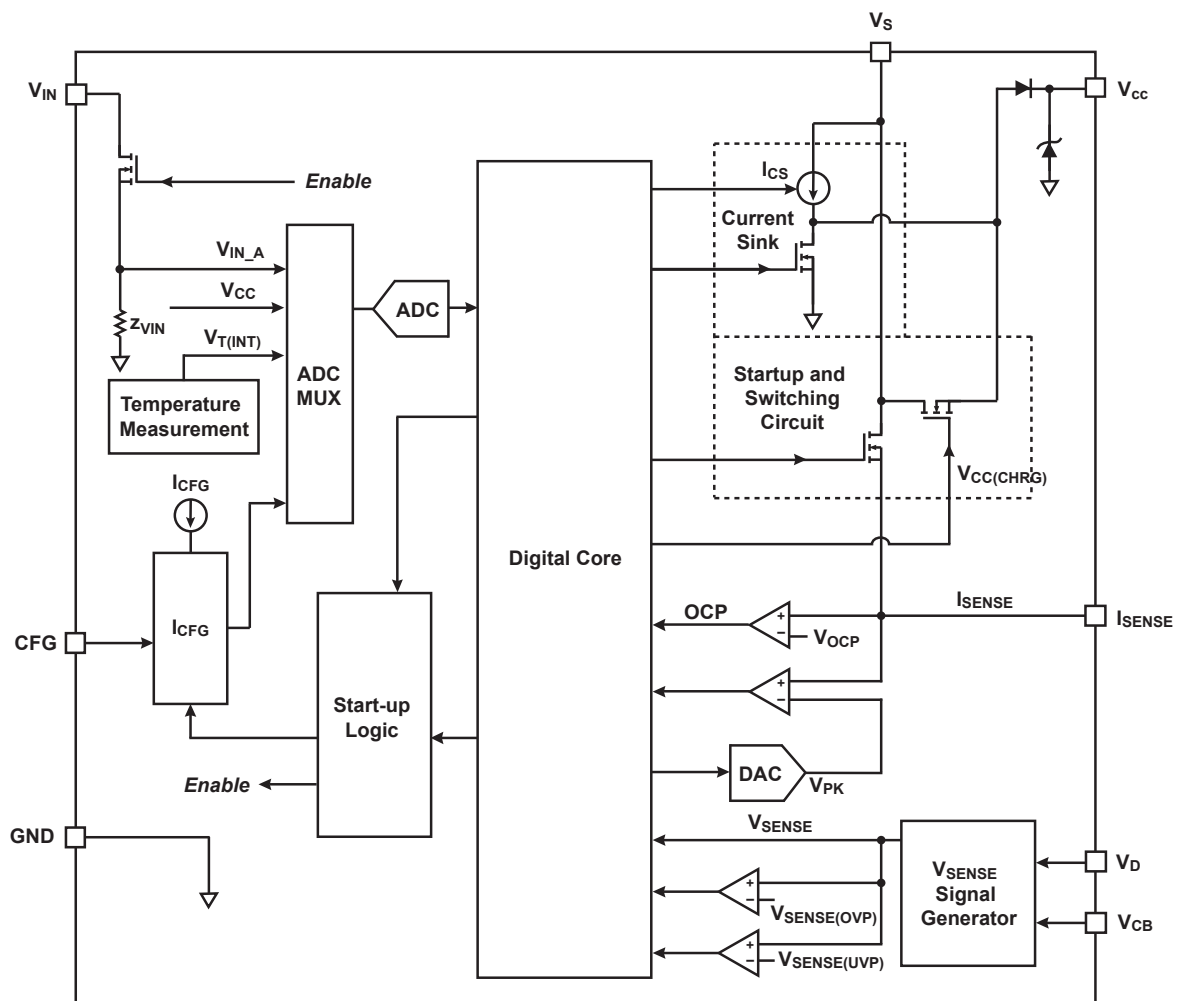
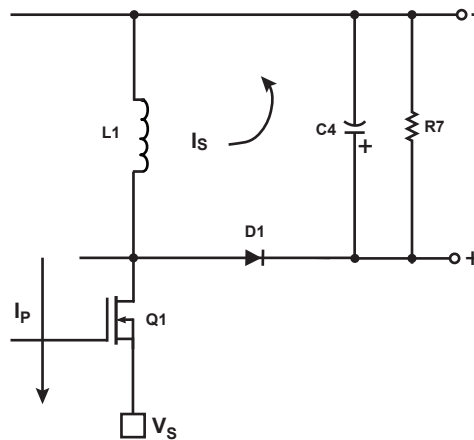
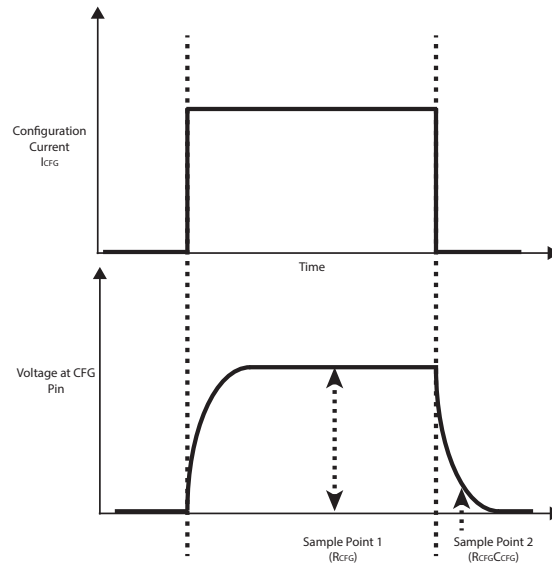

Figure 8.1 : iW3689 Functional Block Diagram
Figure 9.5 : Inductor Current Flow in Switching Mode
Figure 9.9 : Configuration Pin (CFG) Timing Waveform
- Note 2. Refer to the voltage level at the  $V_{IN\_A}$  point in Figure 8.1. The typical impedance between the  $V_{IN}$  pin and  $V_{IN\_A}$  point is  $500\Omega$ .
- Note 4. Refer to  $Z_{VIN}$  in Figure 8.1.
The Digital Core (shown in Figure 8.1) analyzes the rectified AC waveform and determines whether a dimmer is connected on the line. There are three dimmer modes in the iW3689: no-dimmer, leading-edge dimmer, and trailing-edge dimmer. Based on the detected dimmer type and input voltage waveform, the iW3689 determines whether to operate in current sink mode or switching mode. During switching mode, the output current regulation is determined by the inductor peak current ( $I_{SENSE}$  pin), the magnetic flux status of the inductor ( $V_D$  and  $V_{CB}$  pins), and the input voltage waveform ( $V_{IN}$  pin) (refer to section 9.4 for more information).
If a dimmer (either leading-edge or trailing-edge) is detected on the AC line, the iW3689 operates in dimmer mode. In dimmer mode, MOSFET (Q1 in Figure 11.1) operates in both switching mode and current sink mode based on the timing control of iW3689. During the switching mode, the output current is adjusted based on the detected phase conduction angle. During current sink mode, the switching circuit is disabled and the current sink circuit is enabled. The main MOSFET is forced to operate in linear mode, where the current through MOSFET is regulated by the Digital Core. As shown in Figure 8.1,  $V_{CC}$  can be charged during both current sink mode and switching mode.
In iW3689, output current regulation is implemented through peak current control in switching mode. Figure 9.5 and 9.6 show the basic principle of this peak current regulation during the switching mode. During  $T_{ON}$ , the main switch Q1 (shown in Figure 9.5) is turned on and the current,  $I_P$ , flows through the primary side of the buck-boost converter and Q1.  $I_P$  ramps up linearly and causes energy to build up in the power inductor L1 (shown in Figure 9.5). The iW3689 continuously monitors  $I_{SENSE}$  pin voltage, when it reaches  $V_{PK}$  (shown in Figure 8.1), it turns off the switching circuit. At this time,  $I_P$  reaches peak current regulation level  $I_{PK}$  (shown in Figure 9.5 and 9.6). After Q1 is turned off, the current in L1 ramps down linearly through D1 (shown in Figure 9.5), until the energy stored in the power inductor is discharged. During this period, the current through L1 flows to the secondary side of the buck-boost/flyback converter, which is called  $I_S$ .
where  $I_{PK}$  is the peak value of the primary winding current.  $N_{TR}$  is the primary-secondary turns ratio. For single winding inductor topology as shown in Figure 9.5,  $N_{TR} = 1$ .  $T_R$  is the secondary-side current ramp-down time, and  $T_P$  is the entire switching period.
At start-up, a current source in the iW3689 drives the configuration current  $I_{CFG}$  (100 $\mu$ A) into the CFG pin (shown in Figure 8.1). The iW3689 reads the pin voltage to determine the configuration option. The CFG pin configuration selects the temperature de-rating start point (OTP) and  $V_{PK}$  high limit value at dimmer mode. The iW3689 can use either a single CFG resistor to ground for programming the configuration function, or it can use an RC configuration method to achieve more configuration flexibility. The CFG pin monitors two voltage sample points as shown on figure 9.9. The first point is set by the resistor value from CFG to ground and the second is set by the RC time constant if a capacitor is placed in parallel with the CFG resistor. Based on these two sample points, the iW3689 sets the functionality shown in table 9.1. The iW3689 can determine whether or not the capacitor is used in parallel with the resistor or not and program the configuration function accordingly.